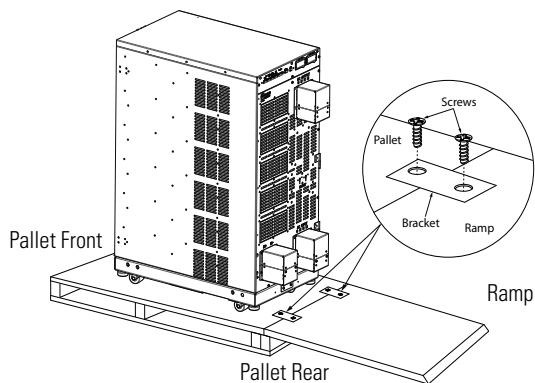

Figure 8. Moving the UPS from the Pallet
4. Attach the supplied ramp to the pallet with the two brackets and four wood screws provided (see Figure 8).
5. Retract the leveling feet by turning them clockwise then carefully roll the cabinet down the ramp to its intended operating location (see Figure 8).